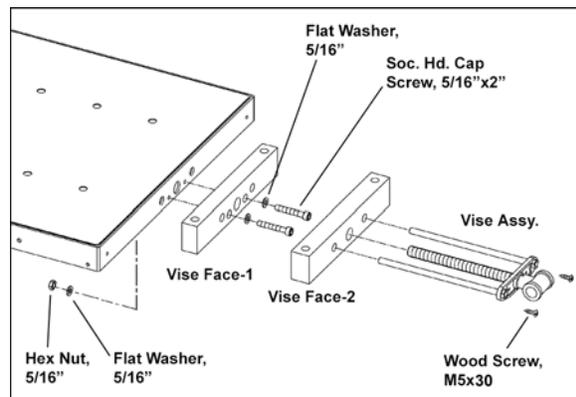

Figure 7
2. With table still lying flat, mount the *vise face-1* to the steel frame. The top surface of *vise face-1* should be flush with the top surface of the workbench. Secure *vise face-1* with two *5/16"x2"* *socket head cap screws*, four *5/16" flat washers*, and two *5/16" hex nuts*, as shown in Figure 7.
4. Make sure *vise face-1* and *vise face-2* are flush at the top surfaces, then insert two *M5x30 wood screws*. See Figures 7 and 8. Continue holding the vise faces flush while tightening the wood screws.